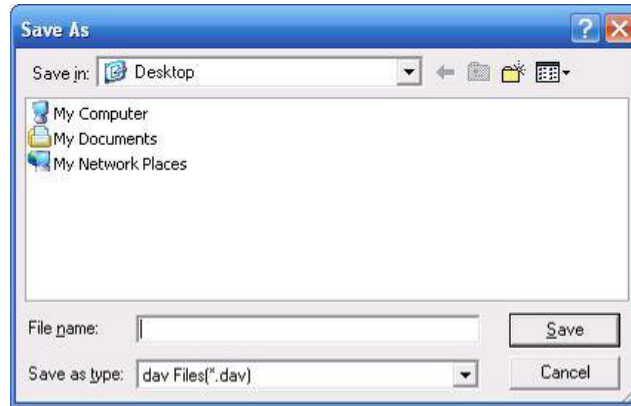

Figure 4-10
7. Select the file(s) you want to download and then click **Download** button. A dialog as shown in Figure 4-10 pops up where you can specify file name and path to download the file(s) to your local PC.